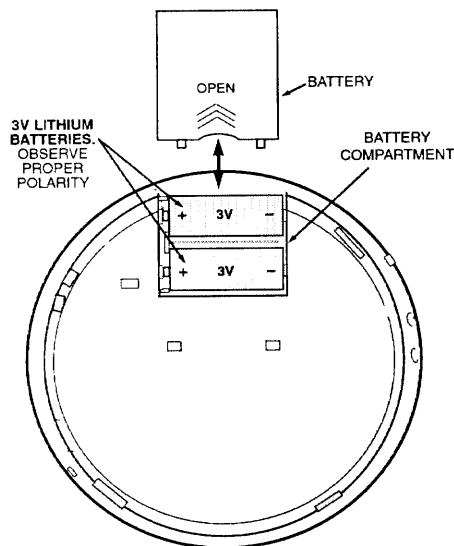

Figure 4. Battery Installation
2. Slide the battery cover plate on the underside of the detector in the direction shown by the arrow. This exposes the battery compartment. See Figure 4.